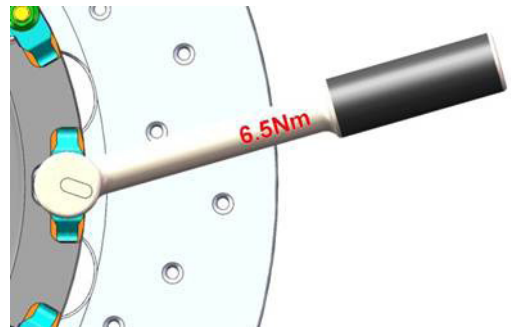

Fig 3. Tighten nut to 6.5Nm
Step 4: Hold the bolt head in position using an E10 6 lobe socket. With an 8mm A/F socket, pre-torque the nut to 6.5Nm (Fig 3.)